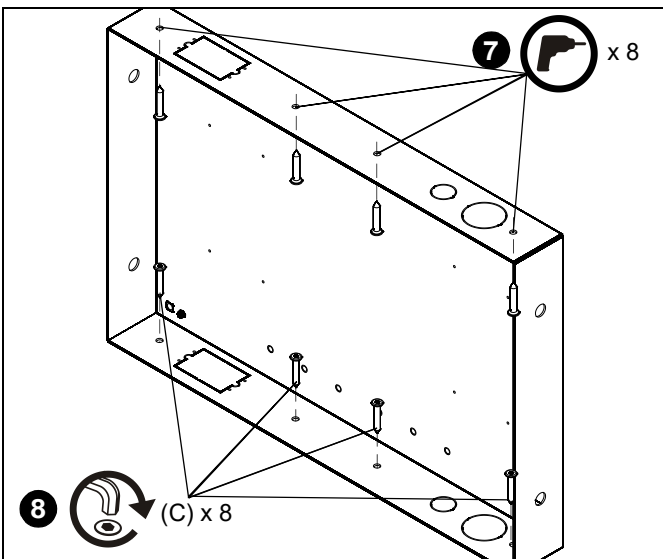

Figure 6
7. Drill eight 3/16" diameter pilot holes in horizontal framing at top and bottom mounting holes. (See Figure 6)
8. Attach the PAC501 (A) to horizontal framing using eight M7 x 40mm Allen head connector screws (C) using an M4 Allen head drill bit (E). (See Figure 6)